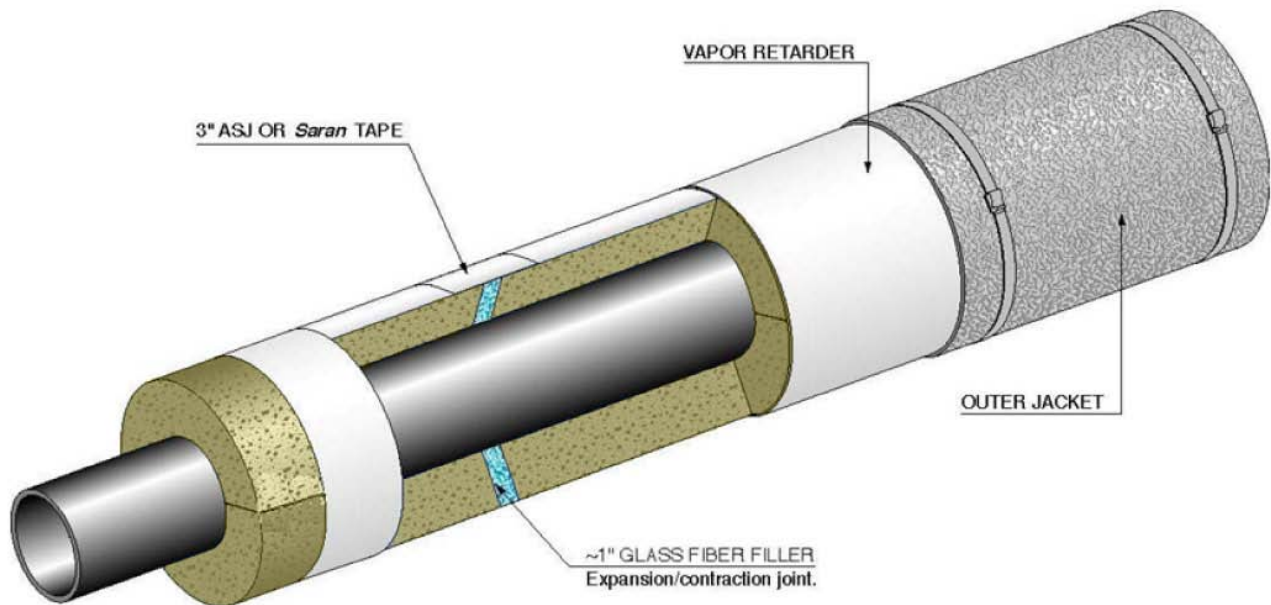

FIGURE 5
- 4.1.9 Expansion joints constructed of loose fill glass fiber insulation shall be installed in the piping insulation system where necessary. See figure 5 in Appendix B. The appropriate designer or engineer must specify the spacing of expansion joints separately for each system. . Recommended expansion/contraction joint spacing is shown in table 1 in Appendix B.